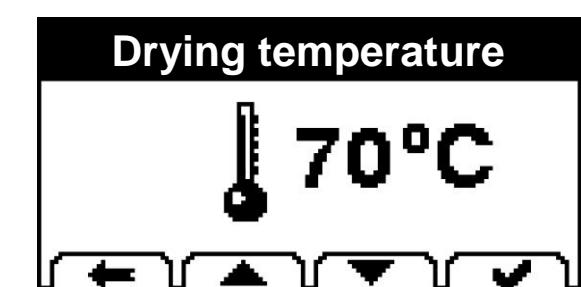

Fig. 5.8
- If the phase with heating has been selected, the user will access the drying temperature programming screen (Fig. 5.8). Increase or decrease the drying temperature with the and keys.